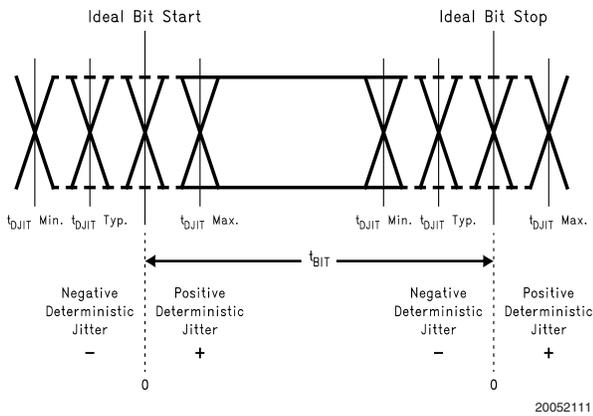

FIGURE 10. Deterministic Jitter and Ideal Bit Position
**Note 7:**  $t_{DJIT}$  specification is measured with the serializer output transmitting checkerboard patterns. It is a measurement of the center distribution of 0V (differential) crossing in comparison with the ideal bit position. See *Figure 10*